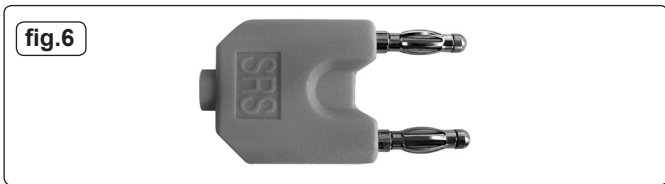

fig.6
3.6 SRS CONNECTOR (Right) (fig.6)